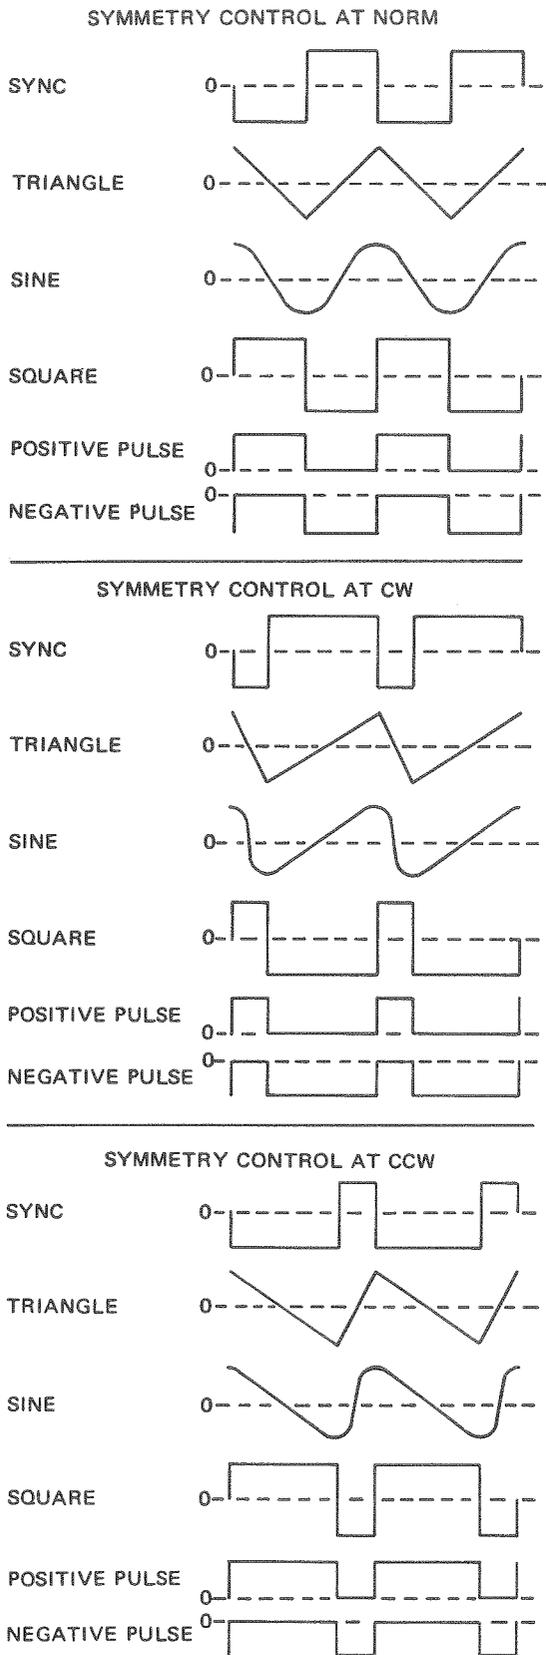

Figure 2-3 - Waveform Phasing and Symmetry Control
18. **Sync Out** – This rear panel output provides a square or rectangular output at the same frequency of the main generator. The output amplitude is approximately 2 V p-p into 50Ω . The phase relationship between the sync output and the waveforms from the 50Ω output is as shown in Figure 2-3.
9. Set SYMMETRY switch/control for desired symmetry or dissymmetry. The symmetry control can be used to develop ramp waveforms with variable rise fall ratios and pulse trains with variable duty cycle. By using the sine wave with dissymmetry, controllable sine distortion can be developed. Figure 2-3 shows the effect of this control on output waveforms.